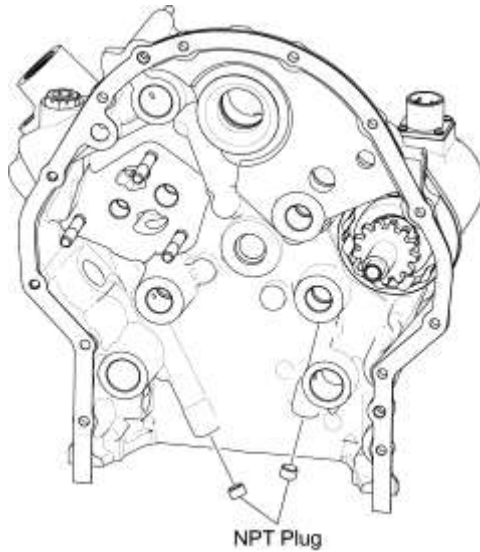

Figure 15
- (7) Pull the propeller governor drive gear away from the crankcase.
- Q. Remove the threaded oil (NPT) plugs from the accessory housing, oil sump/induction system, and crankcase to facilitate cleaning (Figures 15, 16, and 17).